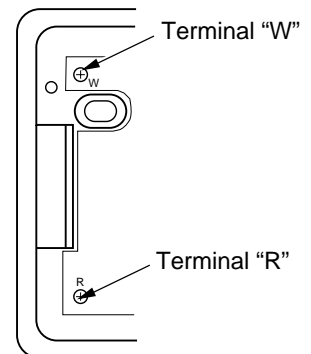

Figure 48 - Thermostat Base Terminal "W" and "R"
7. Connect one bare wire end to each terminal ("W" and "R") of the thermostat base (see Figure 48).